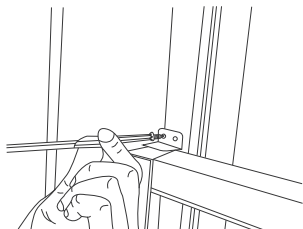

Fig. 9
C. To secure lower sash in place, attach right angle sash lock with 3/4" (19 mm) or 1/2" (12.7 mm) screws shown (Fig. 9).